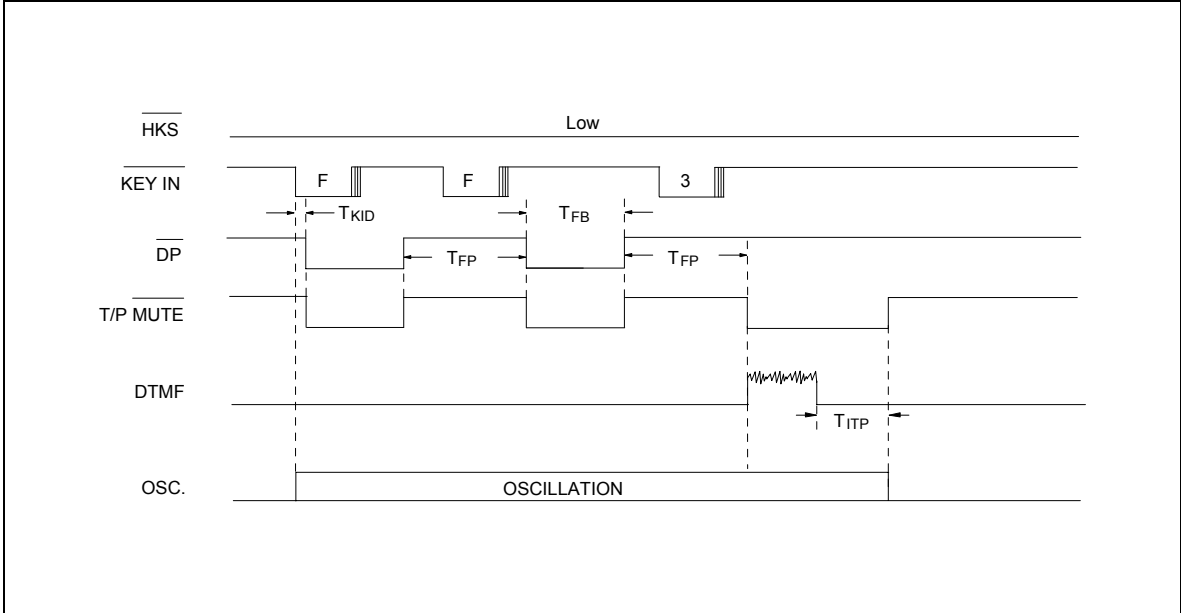

Figure 5. Flash Timing Diagram
5. The timing diagram of flash function is shown in Figure 5.